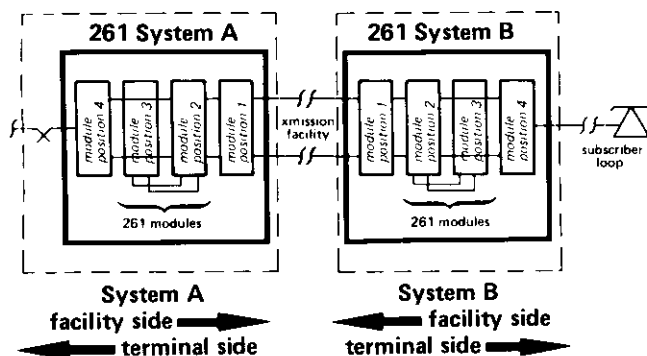

figure 12. "Facility side" and "terminal side" nomenclature
2.01 In this description, the term "facility side" refers to the side of the 261 System (or module within that System) facing the facility over which SF or DX signaling is transmitted to the distant end of a communications channel. Conversely, "terminal side" refers to the side of the 261 System (or module within that System) facing the near-end equipment or station apparatus, and toward which loop or E and M signaling is extended by the 261 System. See figure 12 for the application of this terminology to a typical end-to-end circuit.
2.03 The basic applications delineated in the preceding paragraph, and variations thereof, are implemented by the selective use of Tellabs' Type 10 printed circuit modules in a universally-wired equipment enclosure. Please note in figure 12 that the position 1 module interfaces the facility and the position 4 module interfaces the terminal. Between these interfaces, the position 2 module provides signaling for the facility, and the position 3 module converts the facility-side signaling to the mode of signaling required by the terminal. In certain applications, one or more of these four modules may not be required. However, if a particular module position is used, it always serves the same basic purpose (as described above). Module positions 1, 2, 3, and 4 are always defined, respectively, from left to right as you look at the front of the module enclosure. (Module positions in the left-hand System of figure 12 are shown reversed only for diagrammatic clarity.) The *general application* section of this Practice will discuss 261 System usage in terms of these module positions, their functions, their common applications, and their attendant modules.